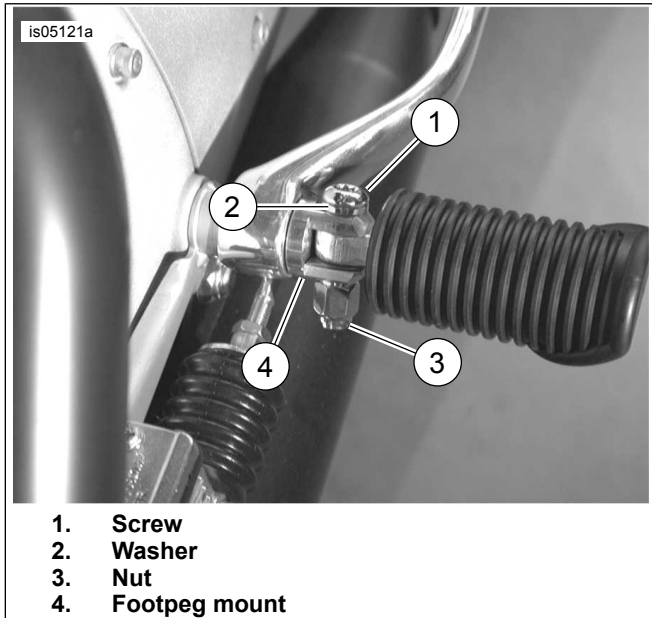

Figure 2. Footpeg Screw Installation
2. See Figure 2. Install footpeg with **new** washer (2) and screw (1).
3. Install **new** nut (3). Tighten.